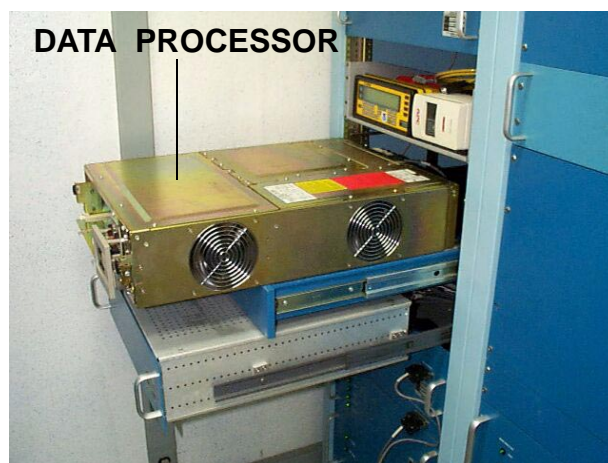

Figure 4-11 Data Processor Location
The Data Processor (DP) Assembly, located above the Signal Processor in the Equipment Cabinet (see Figure 4-11), is built around a Digital Equipment Corporation MicroVax II computer with one megabyte of random access memory (RAM). The Data Processor Assembly also contains the following components:
Because of the physical configuration of the interface cables between the Data Processor and the Signal Processor, the two units must be pulled out of the Equipment Cabinet in concert as shown in Figure 4-11.